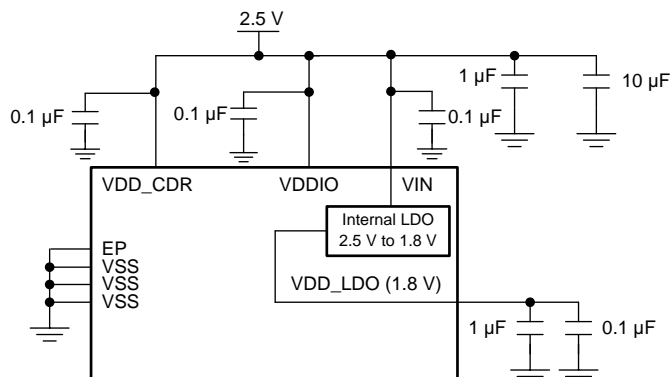

图 39. Typical Connection for Single 2.5 V Supply
- **Single Supply Mode (2.5 V):** This mode offers ease of use, with the internal circuitry receiving power from the on-chip 1.8 V regulator. In this mode, 2.5 V is applied to VDD_CDR, VIN, and VDDIO. See 图 39 for more details.